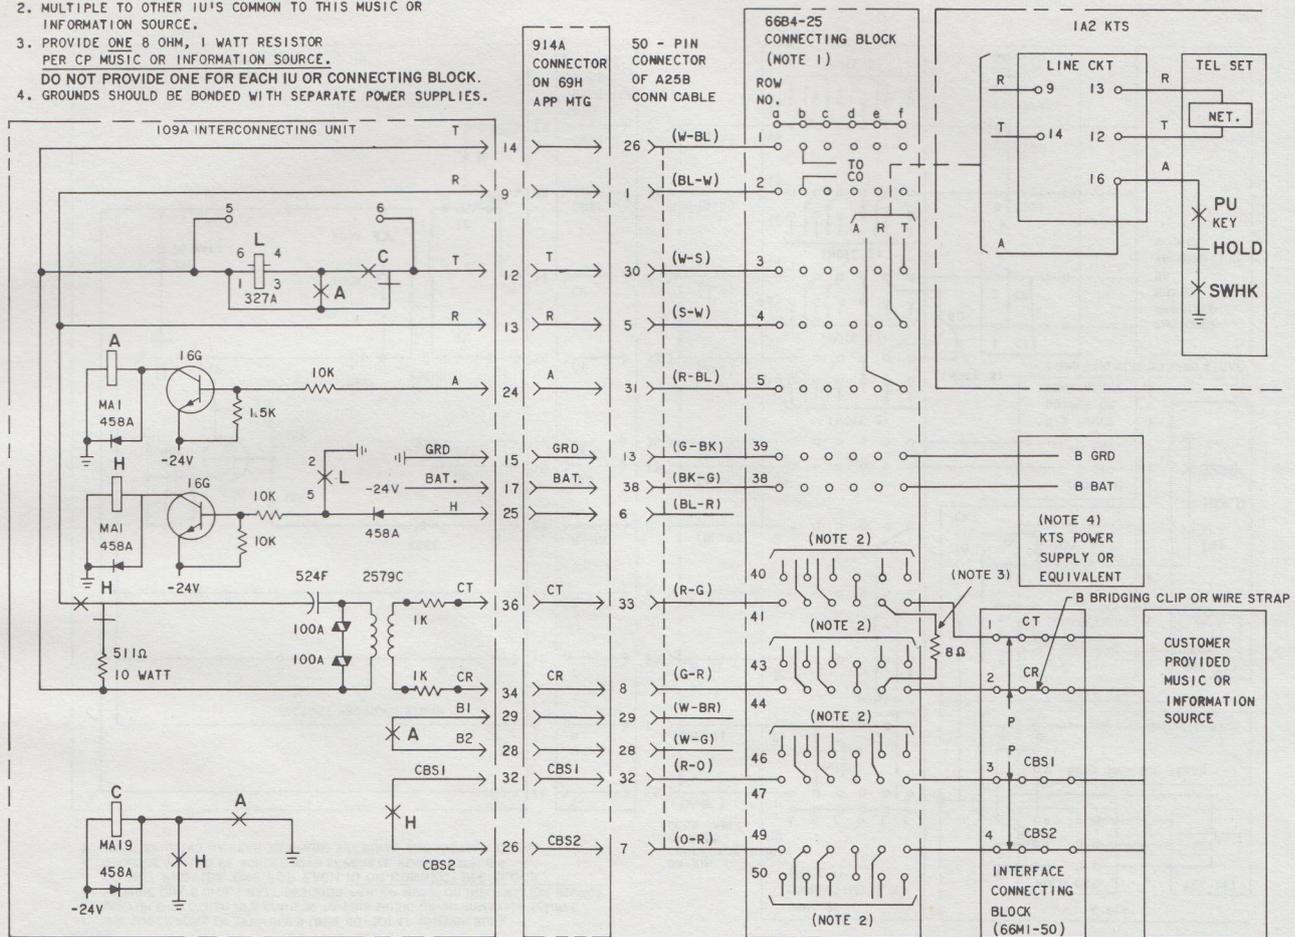

Fig. 5—Connections for Voice Connecting Arrangement LVH with 1A2 KTS
**1A2 Key Telephone System (109A IU, Fig. 5)****4.03 Incoming Call:**
**109A Interconnecting Unit (Fig. 5)**